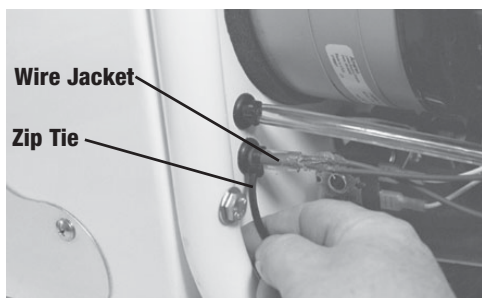

Figure 11
6. Insert new float switch. Moisten float switch's wire jacket (fig. 11) before pushing through rubber grommet. Once installed firmly zip-tie wire jacket as shown (fig. 11).